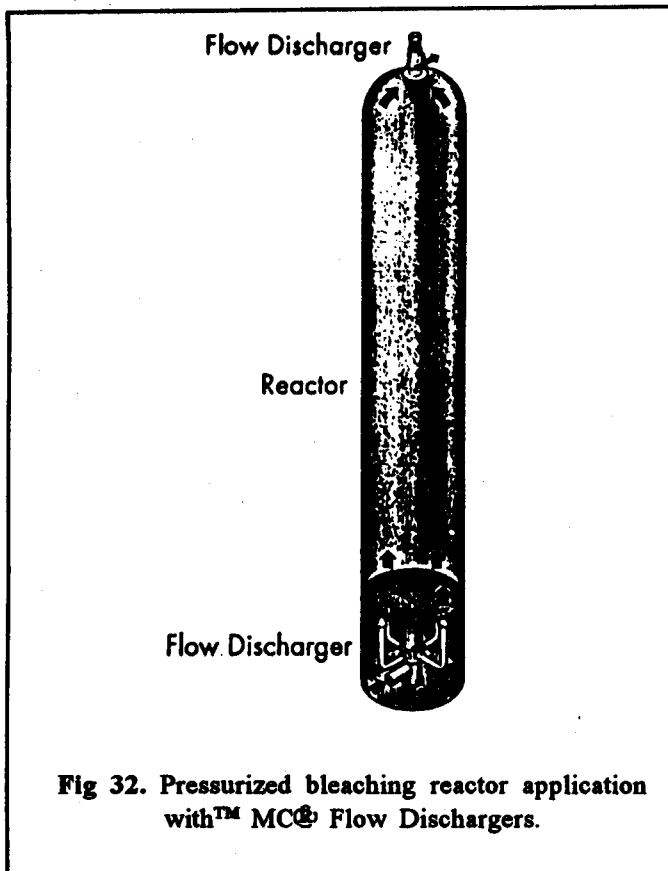

Fig 32. Pressurized bleaching reactor application with™ MC® Flow Dischargers.
The distribution of stock into the bleaching reactor and discharging it from there with the Flow Discharger has been introduced in oxygen, peroxide and dioxide stages (Fig.20 and Fig.32). In reactor feed, the stock is fluidized and divided into equally large flows that are led to the reactor bottom. This Flow discharger arrangement provides mechanical advantages and the separation of gas at the reactor bottom is avoided.
- Fig.32. **Pressurized bleaching reactor application with MC® Flow Dischargers.**